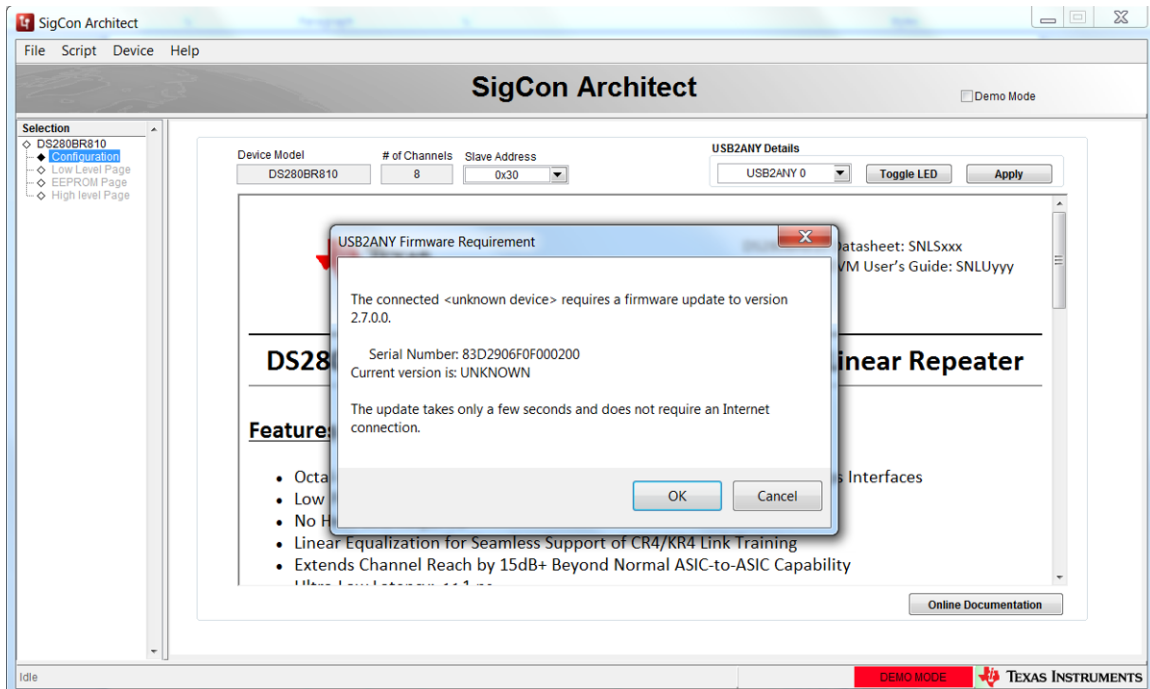

Figure 7. SigCon GUI—USB2ANY Firmware Update Pop-up
- (d) If the message to update the *USB2ANY Firmware Requirement* appears, follow the instructions in the pop-up message step-by-step to update (see Figure 7).